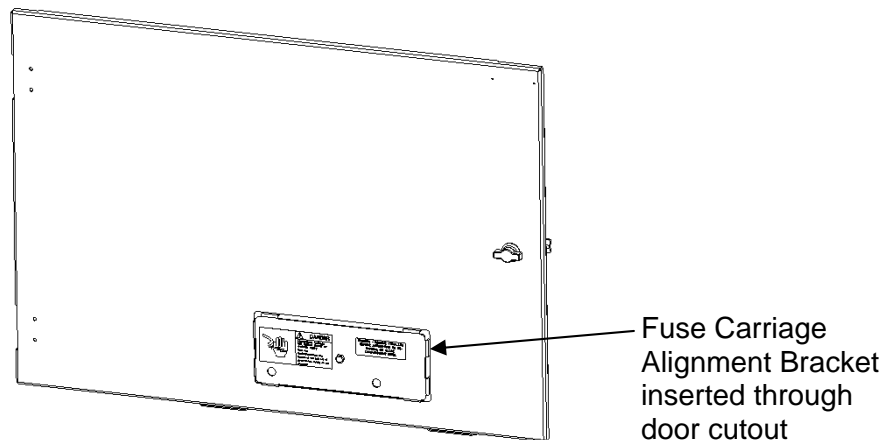

Fig. 3.3 Fuse Carriage Door
3. From rear side of door, align and fully insert Fuse Carriage Alignment Bracket through cutout in door. See Fig 3.3.